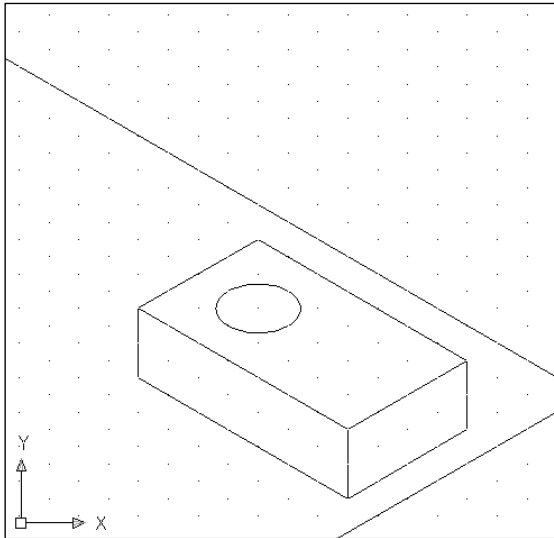

Figure 8-23: The completed iron plate with a hole in it, drawn isometrically.
13. Choose Ellipse from the Draw toolbar. Right-click and choose Isocircle from the shortcut menu. At the Specify center of isocircle: prompt, choose 5.1962,3. At the Specify radius of isocircle or [Diameter]: prompt, type .5 ↵ to draw the ellipse. Your drawing should look like Figure 8-23.